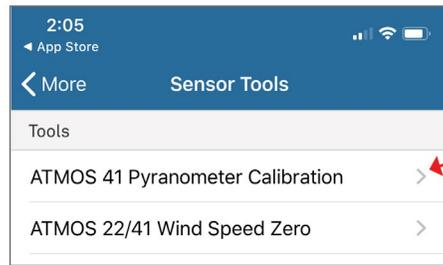

Figure 16. Sensor Tools screen
11. In the Sensor Tools screen, press on the ATMOS 41 Pyranometer Calibration button (Figure 16).